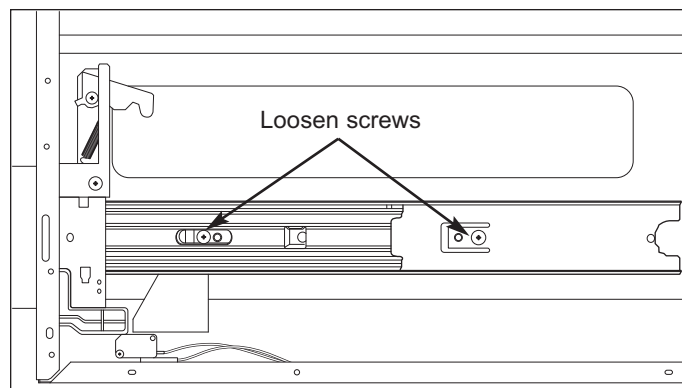

Figure 4-9. Slide Rail Adjustment
10. This is done by following the steps to remove the "Drawer Assembly and Drawer Support Angle Removal" on page 4-10. After you have removed the drawer support covers, loosen the two screws holding the slide rail to the microwave cavity and tilt the front end up and the rear end down, then tighten the screws (See Figure 4-9).